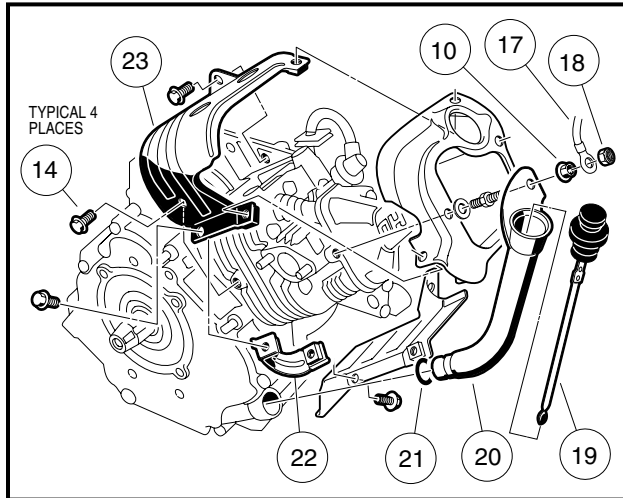
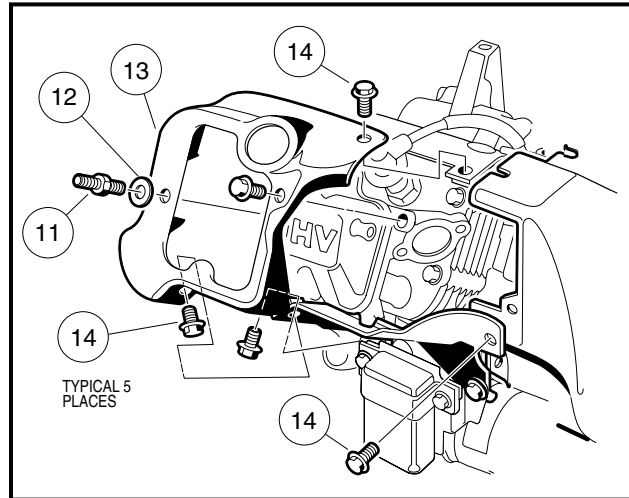

Figure 18-4 Upper Shroud & Oil Fill Tube Removal
Figure 18-5 Head Shroud Removal
6. Disconnect oil filler tube (20) from cylinder shroud by first removing the lock nut (18), ground wire (17) and flange nut (10) (**Figure 18-4, Page 18-7**). **See following NOTE.**
7. Remove the nine bolts (14) and two-ended bolt (11) (Figure 18-5, Page 18-7).
8. Take off the head shroud (13) (Figure 18-5, Page 18-7), and the upper shroud (23) and the bracket (22) (Figure 18-4, Page 18-7).